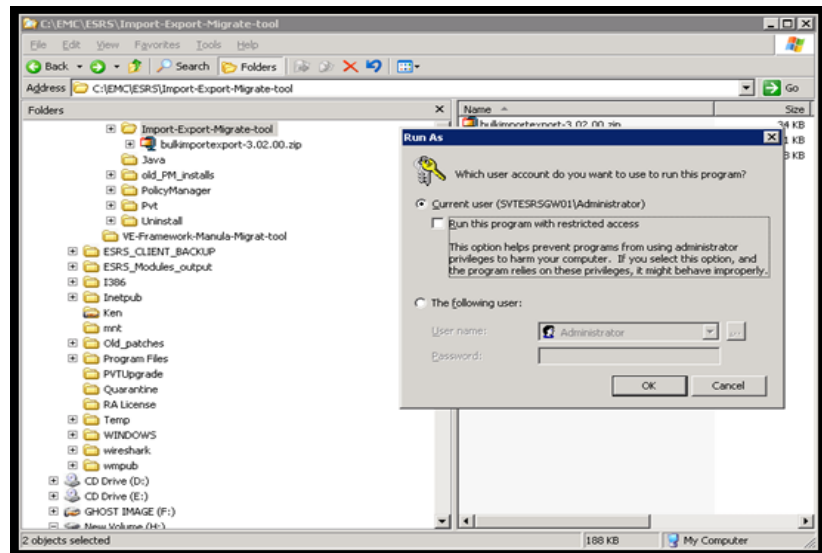

Figure 128 Running as administrator
- Right-click the program and select **Run As Administrator**, as shown in Figure 128 on page 102. A screen appears that explains what the tool can do.